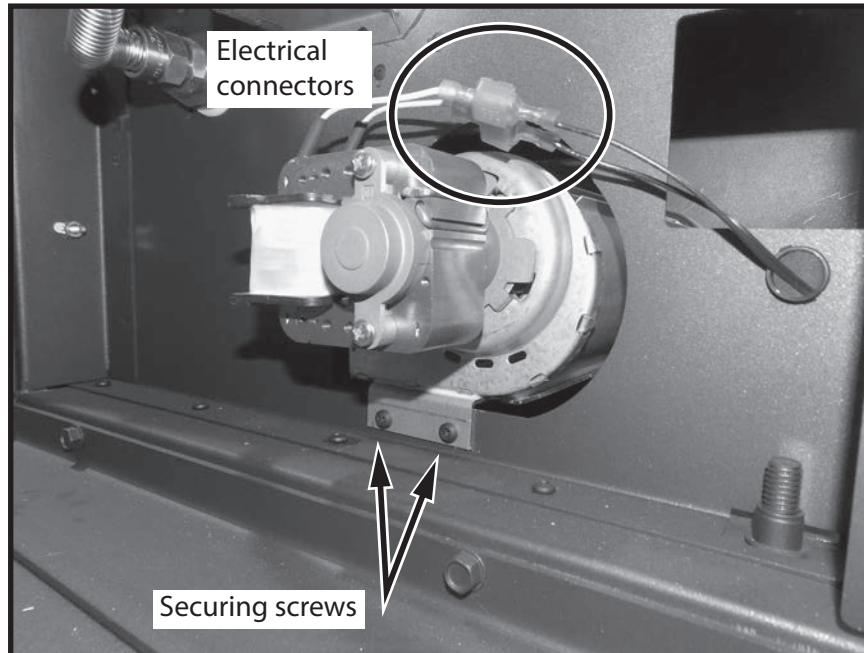

Figure 45: Blower fan connections.
3. Disconnect the power connections (Figure 45).
4. Remove the two (2) screws holding the fan in place (Figure 45) and remove the fan out of unit.